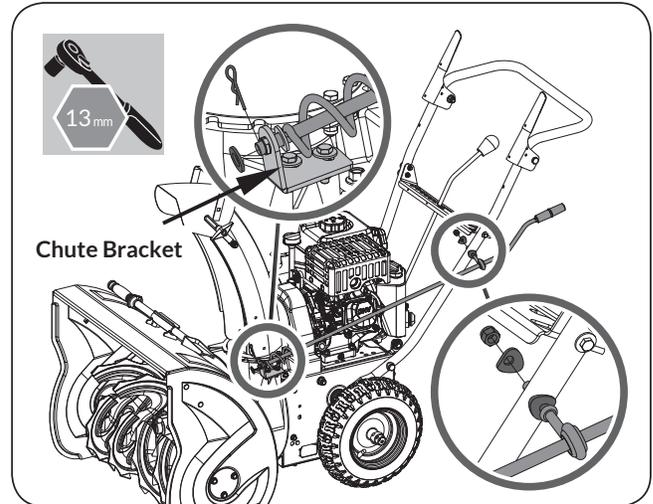

Figure 6a
3. Secure the spiral end on the chute bracket by sliding on the flat washer and clevis pin. (See **Figure 6a**)